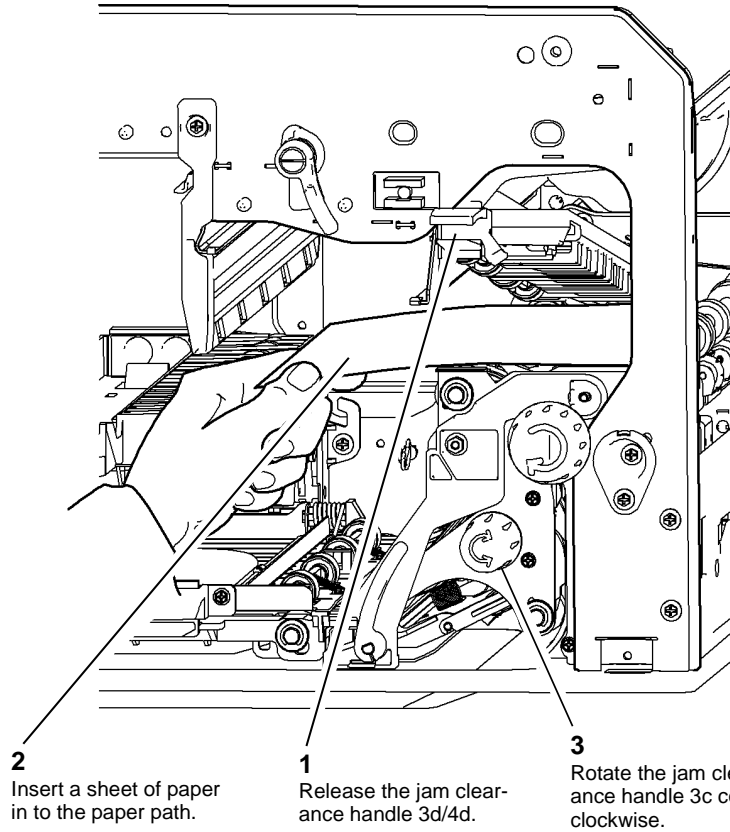

Figure 3 Inserting paper
6. Manually feed a sheet of A4 or 8.5 x 11 inch paper, long edge feed, through the paper path, Figure 3.